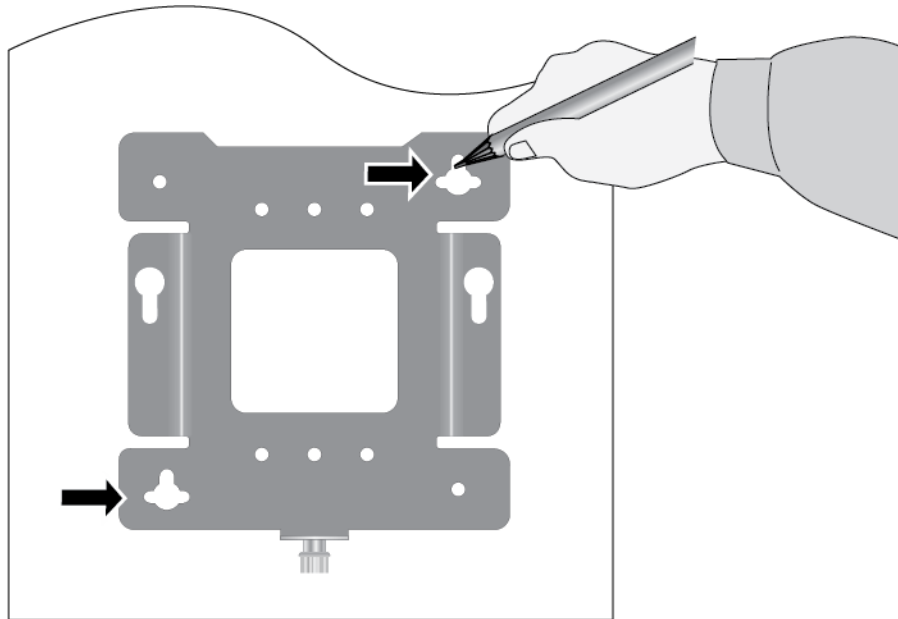

Figure 11. Mark and Pre-Drill Holes for Key-Hole Slots
3. With a pencil, mark the wall or ceiling with the two key-hole slots of the bracket. Refer to Figure 11.